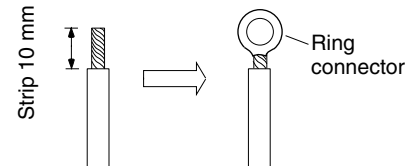

**Fig. 3-99**
- (1) Cut the wire end with a cutting pliers, then strip the insulation to expose the solid wire about 25 mm. (Fig. 3-99)
- (2) Using a screwdriver, remove the terminal screw(s) on the terminal plate.
- (3) Using the pliers, bend the solid wire to form a loop suitable for the terminal screw.
- (4) Shape the loop wire properly, place it on the terminal plate and fix it securely with the removed terminal screw using a screwdriver.